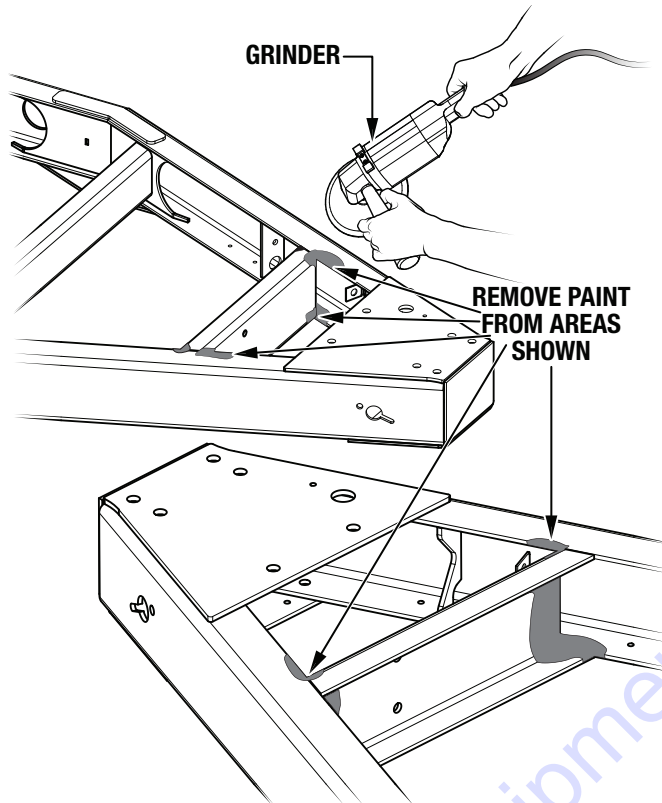

Figure 3. Paint Removal
1. Using a grinder, remove the paint from the areas to be heated during welding (Figure 3).